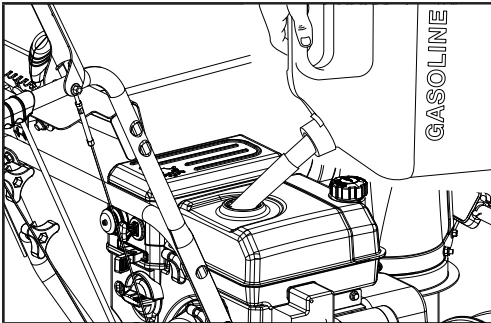

Figure 16
1. Remove the fuel tank cap (Fig. 16).